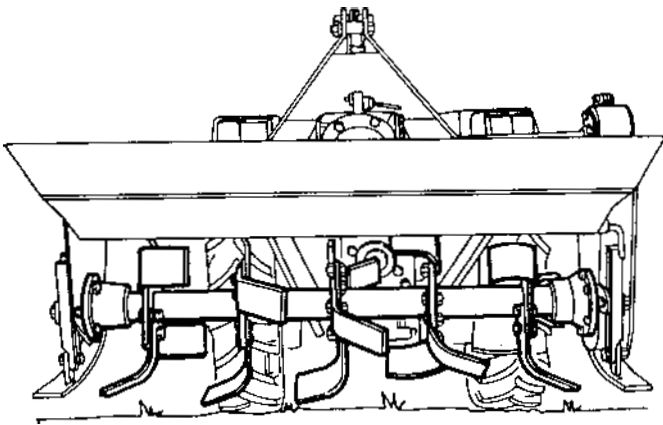

Fig. 12
- 4 Adjust the right hand hitch lift rod to make the tiller parallel with the ground (left to right) when the tiller is raised slightly off the ground. Shortening the lift rod will raise the right side of the tiller, lengthening the lift rod will lower the right side of the tiller. Fig. 12